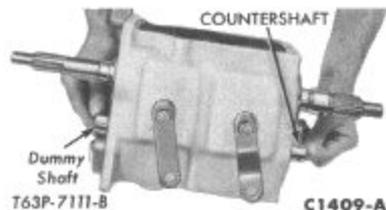

FIG. 44—Removing Countershaft
7. Hold the countershaft gear with a hook and with Tool T63P-7111-B (Fig. 44), push the countershaft out the rear of the case until the countershaft gear (cluster) can be lowered to the bottom of the case. Remove the countershaft from the rear of the case.